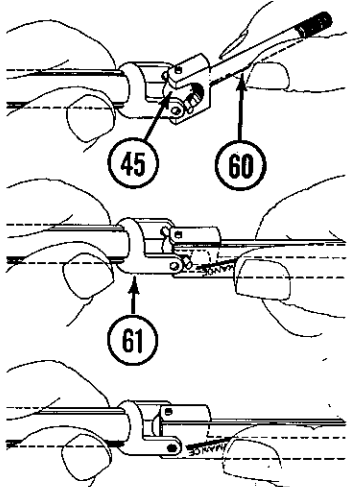

FIG. 25
13. Pry universal pivot joint (45) in rear axle (60) into the male drive shaft (61) U-joint using TEAM LOSI wrench. Fig. 25.